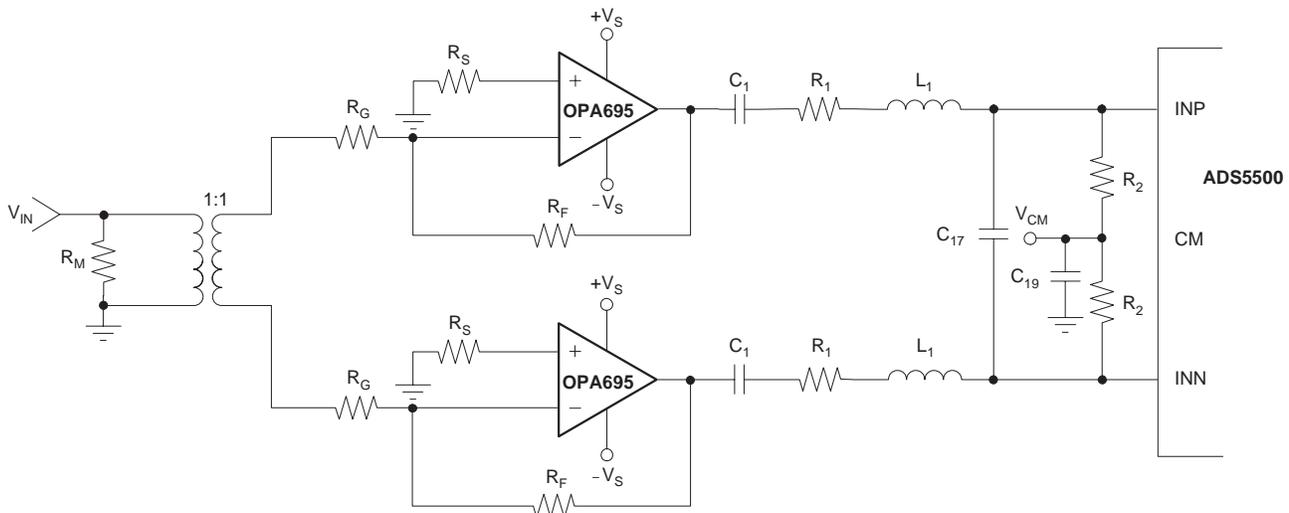
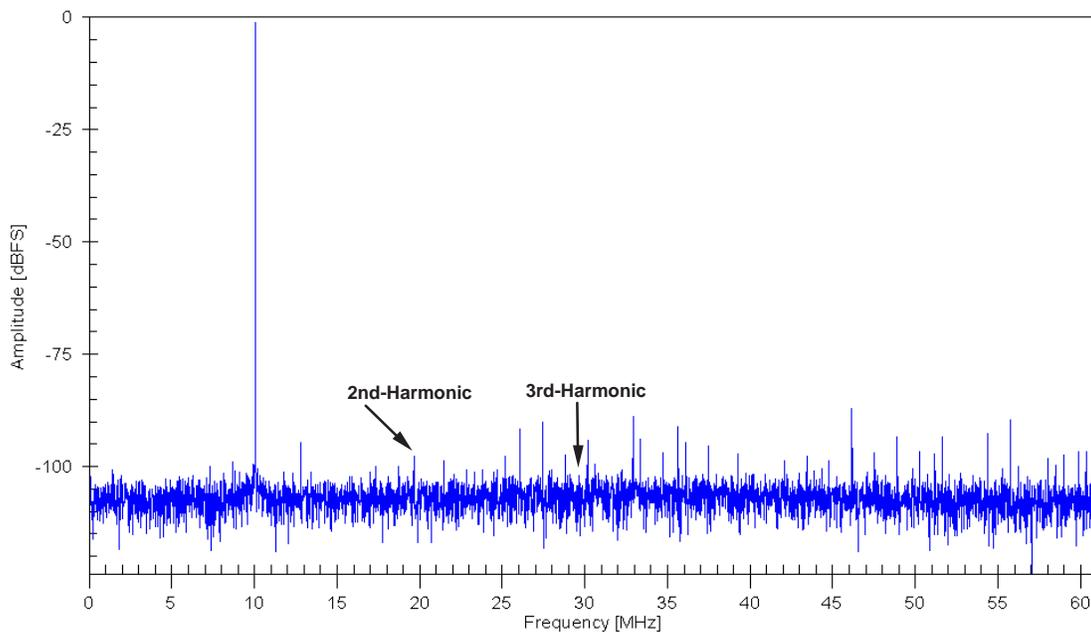

Figure 1. OPA695 Differential Interface to ADS5500
Figure 10. OPA695 Differential Driver Circuit Driving ADS5500
As more and more ADCs are specified with differential inputs, a differential driver becomes necessary. Using a symmetrical design, the differential inverting configuration is preferred in order to obtain the best slew rate achievable by the amplifier. (See Figure 1.) In order to reap the full benefit of 2nd-harmonic cancellation that the differential architecture enables, PCB layout must be optimized. The number of board layers, characteristic impedance, component placement, ground planes, symmetry, and power supply decoupling are only a few of the many issues that need to be resolved when designing a PCB.
Testing the differential layout discussed in this report using the ADS5500 (125MSPS, 14-bit ADC converter) and the OPA695 (Ultra-Wideband, Current-Feedback Operational Amplifier with Disable) shows that 2nd-harmonic distortion appears to be completely cancelled; see Figure 10. The 2nd-harmonic at 20MHz shows a -98dB level as a result of the converter alone. The configuration shown in Figure 1 was used to achieve this result.
- OPA695 in a differential configuration, as shown in Figure 1
Table 1. Tested Results for Figure 1 Layout